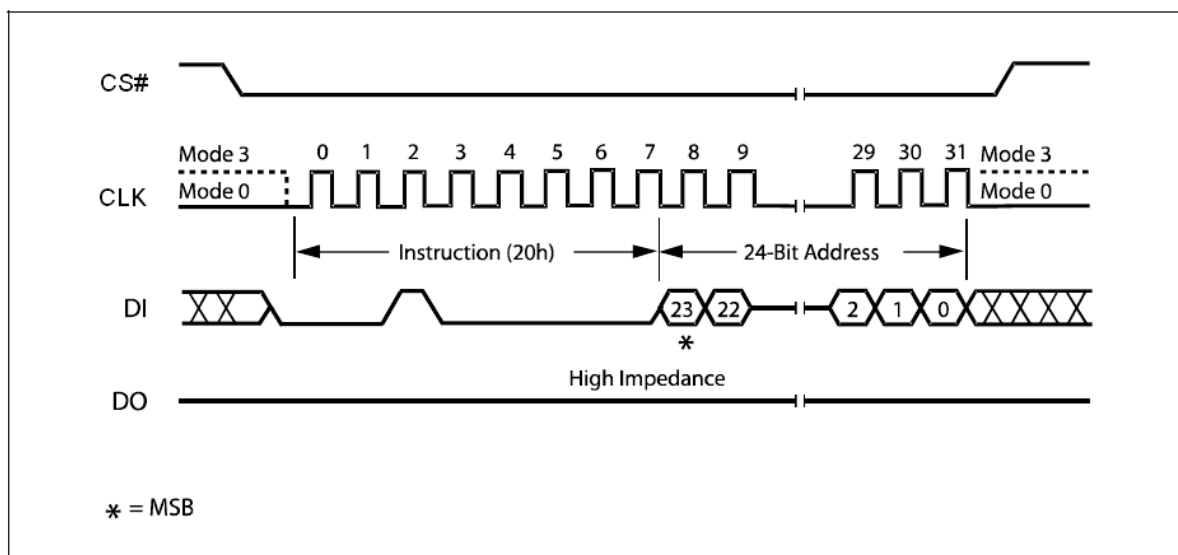

Figure 21. Sector Erase Instruction Sequence Diagram
The instruction sequence is shown in Figure 21. Chip Select (CS#) must be driven High after the eighth bit of the last address byte has been latched in, otherwise the Sector Erase (SE) instruction is not executed. As soon as Chip Select (CS#) is driven High, the self-timed Sector Erase cycle (whose duration is t_{SE}) is initiated. While the Sector Erase cycle is in progress, the Status Register may be read to check the value of the Write In Progress (WIP) bit. The Write In Progress (WIP) bit is 1 during the self-timed Sector Erase cycle, and is 0 when it is completed. At some unspecified time before the cycle is completed, the Write Enable Latch (WEL) bit is reset.